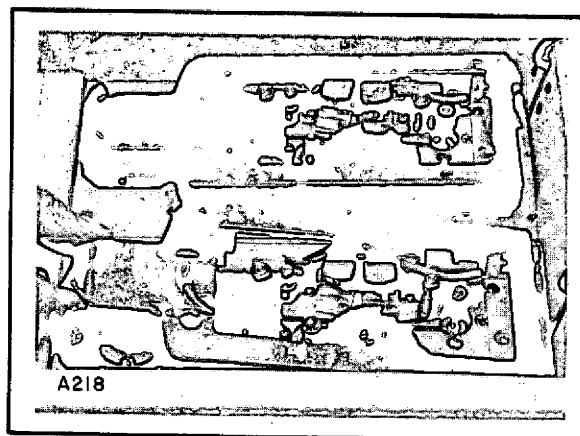

Fig. 3-2. Lift the Loader
- b. Lift the loader. This is called the cartridge insertion position. (See figure 3-2.)